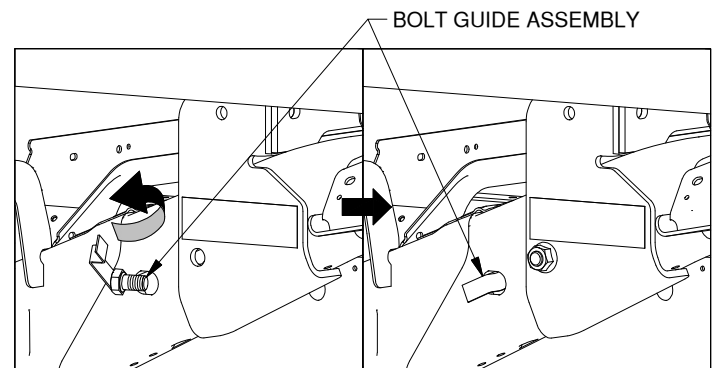

Figure F2: Installing bolt guide assembly, looking at driver side frame.
4. **Secure side plate.** Place one of the bolt guide assemblies (bolt first) through the larger oval hole just in front of the side plate, twisting it around and back out through the smaller hole in the frame and side plate, see Figure F2. Use the tab on the end of the bolt guide assembly to hold in place while a 5/8" flange nut is installed.